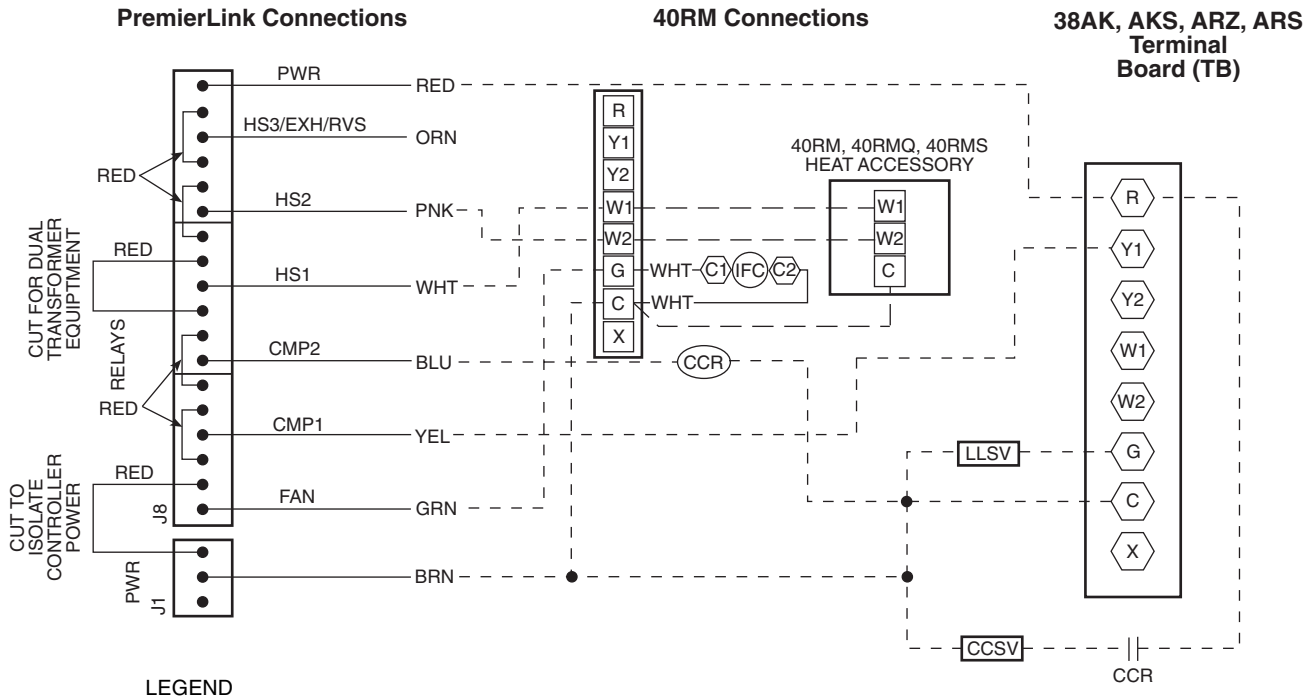

Fig. 2A — Typical PremierLink™ Control Wiring — 38AK,AKS,ARZ,ARS007-012 Units
5. Provide 24 v power to the circuit board from the unit transformer or an isolated power transformer. Use the appropriate conductors for voltage per base unit nameplate. See Fig. 2A-2I. Board will require 10 va at 24 vac.